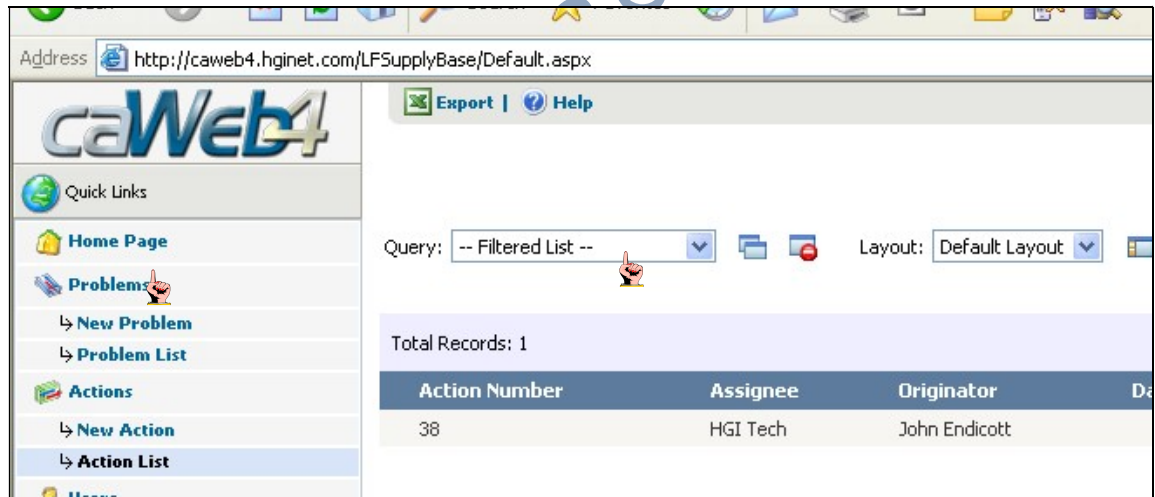

Figure 5- Screenshot of the Action List
- 6.8.1. Action items are used occasionally by Littelfuse to identify medium to long-term projects that will need a follow-up at a later date. They can be created independent of a corrective action or in conjunction with it. Notifications for Action Items are very similar to notifications for Corrective Action Requests. Action Items can be accessed from the Menu by clicking on Actions, then clicking on Action List (see Figure 5 below).